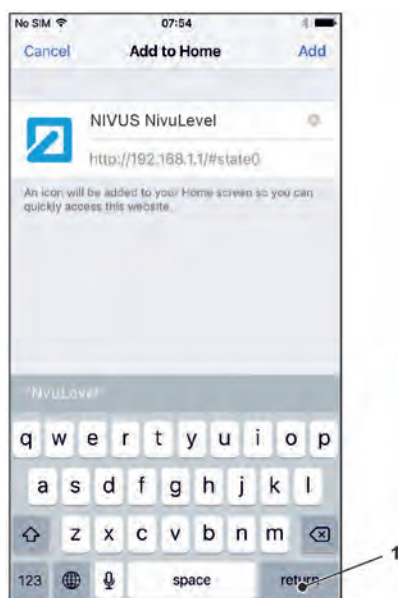

Fig. 30-18 Confirm adding
10. Confirm with "Return" (Fig. 30-18 Pos. 1).